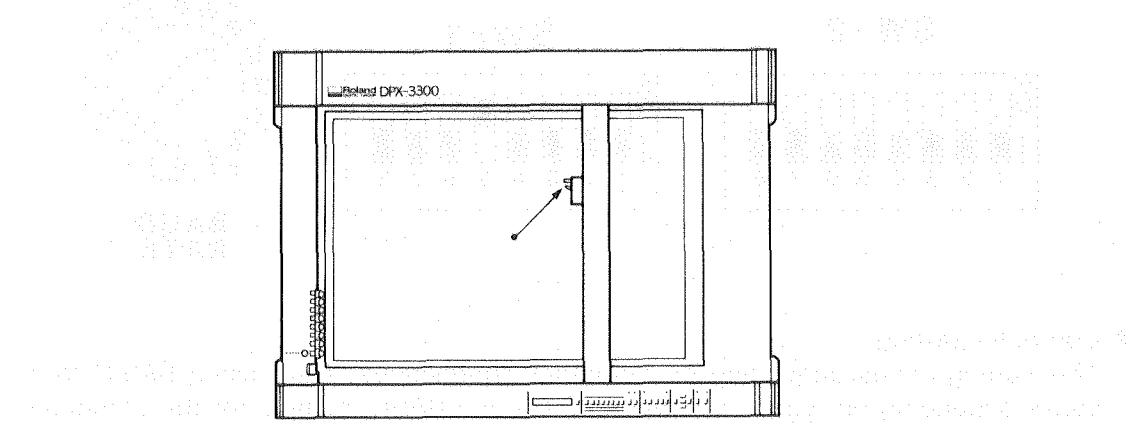
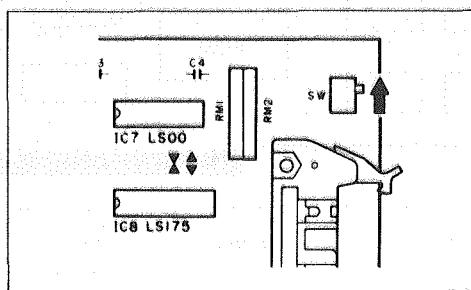

Fig. 9-3
Fig. 9-4
- (a) the pen carriage operates as shown in Fig. 9-3 and
- (b) the pen carriage operates as shown in Fig. 9-3 and *Fig. 9-4*.
When the connection is correct, the pen carriage will move horizontally to the left and right, as shown in *Fig. 9-3*. If the carriage does not move, or moves slowly, check the connection again.
- ① Set the switch of Roland DG corp.'s interface card "XY-APL" as shown in Fig. 9-4 below.
(b) the pen carriage operates as shown in Fig. 9-3 and